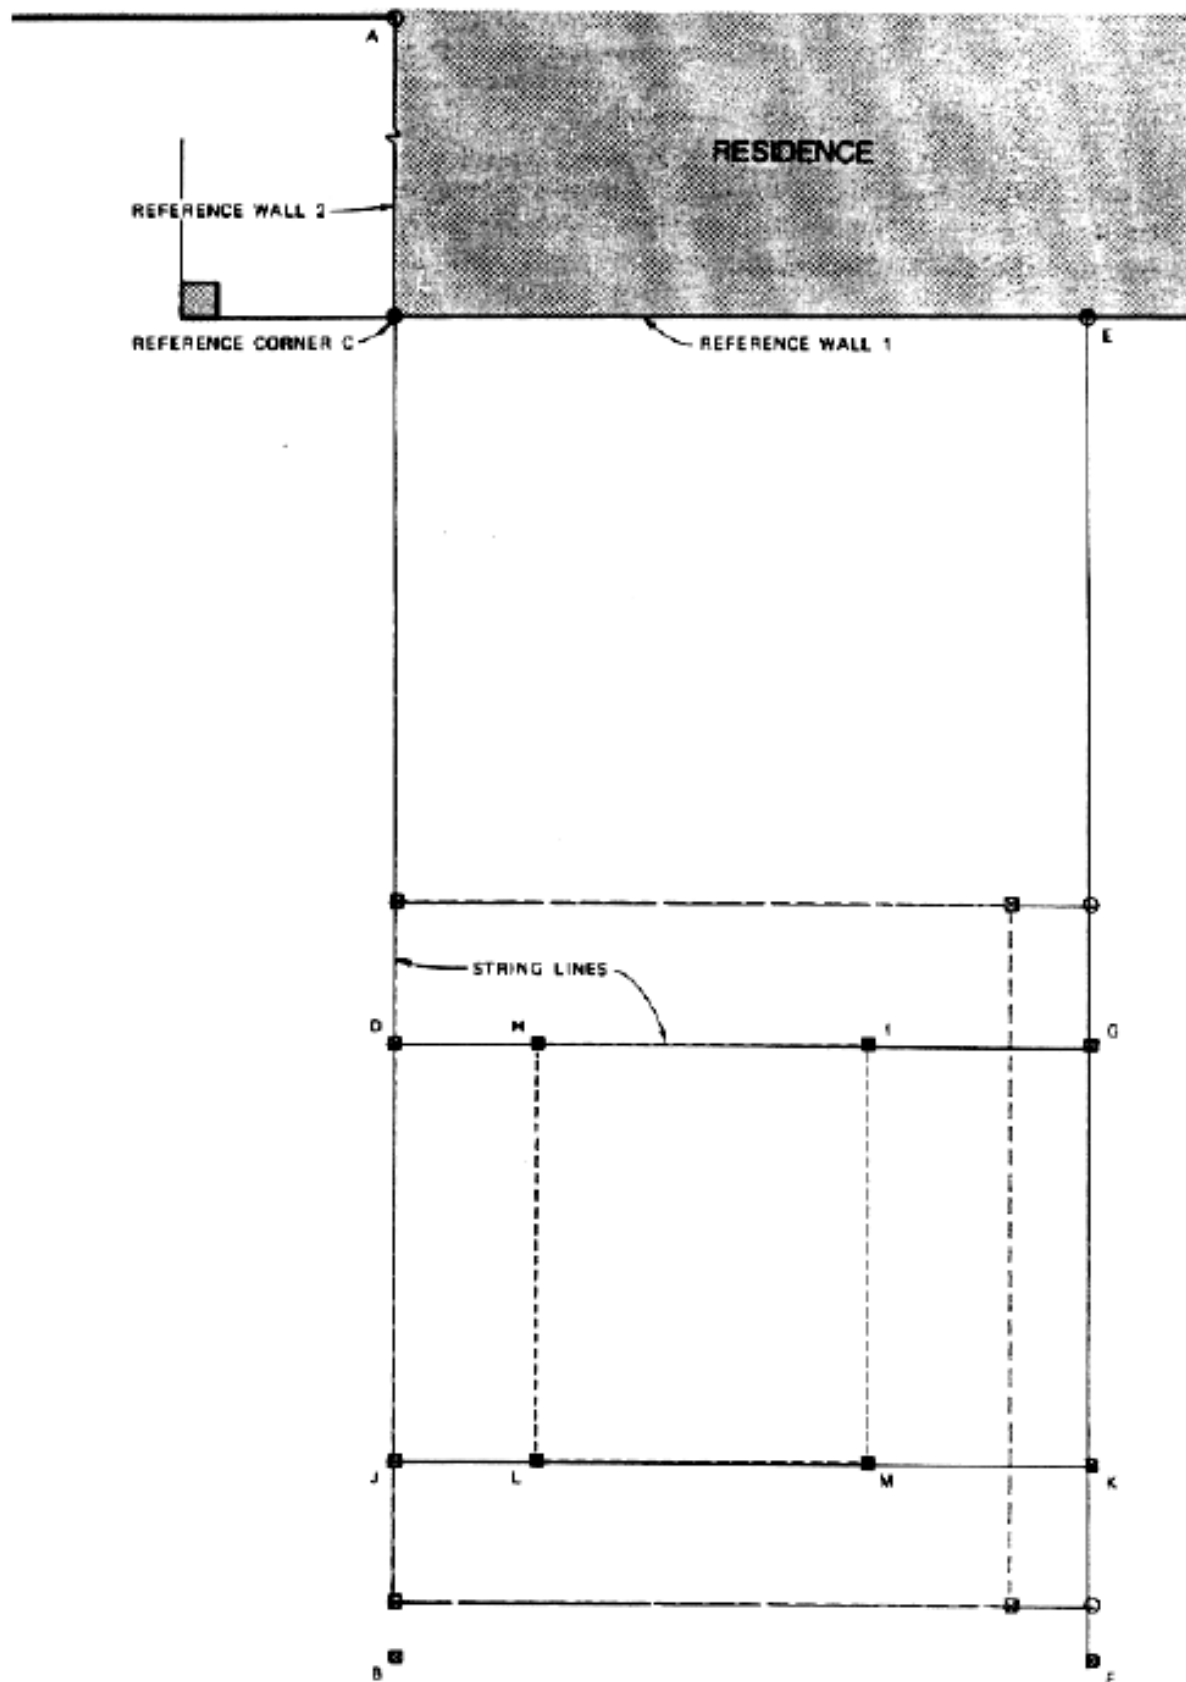

Figure 17. Stake layout for locating corners of the shelter
Step 1: Extend a string line several inches above the ground level from A to B (see figure 17). B is any selection distance from reference wall 1, preferably slightly greater than the distance to the outermost edge of the shelter. The string line should be in line with reference wall 2, and when held taut should just touch reference corner C without bending the string line. Line A B then will be perpendicular to reference wall 1 and also will be a projection of reference wall 2. Set temporary stake B and drive a nail into its top precisely in line with the string line.